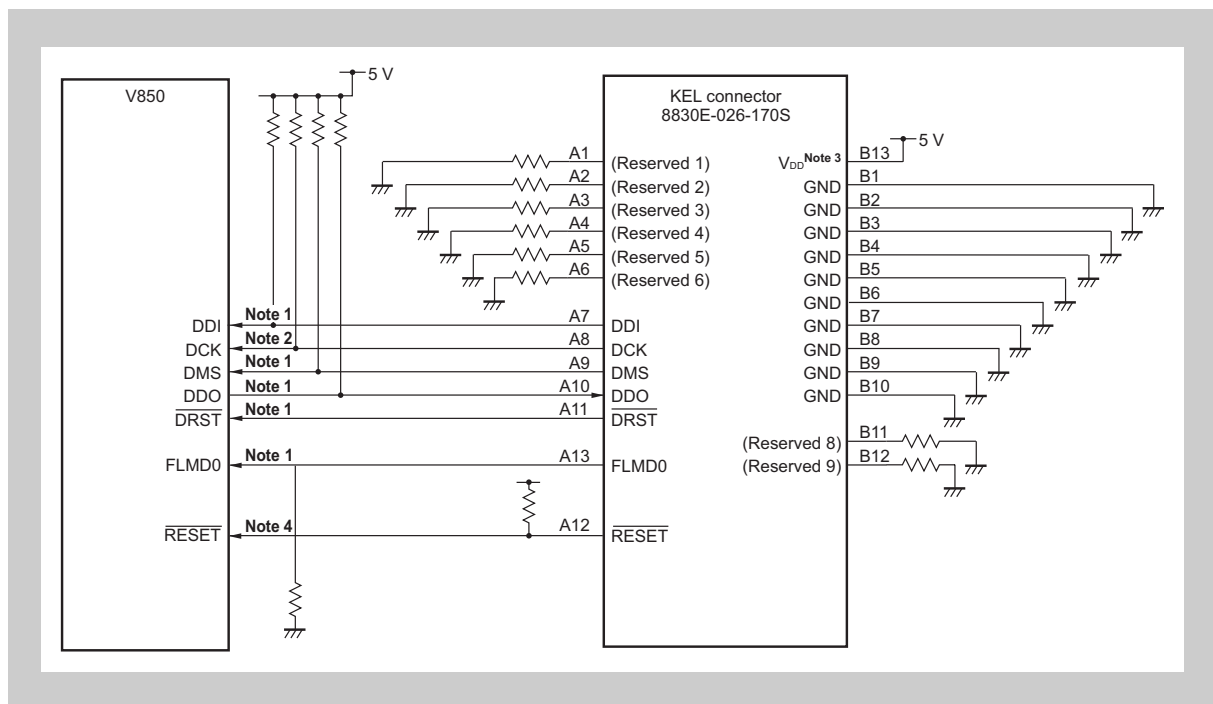

Figure 23-6 Example of recommended emulator connection circuit
4. In a system that uses only POC reset and not pin reset, some emulators input an external reset signal as shown in *Figure 23-6* to set the OCDM.OCDM0 bit to 1.